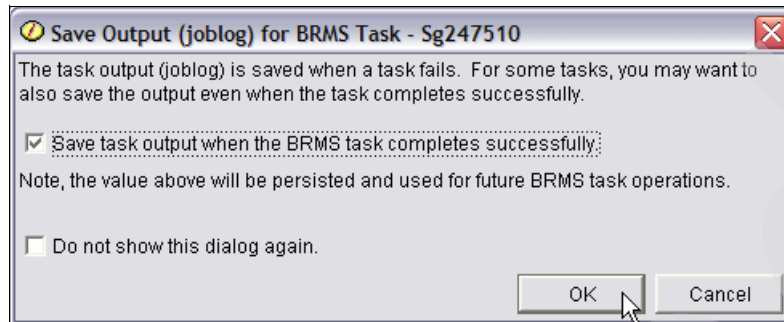

Figure 6-78 Save output (joblog) for BRMS task
3. The next window (Figure 6-78) asks us if we want to save the job log of our backup job. When running a backup for the first time, we always recommend this so that we can have the most complete information about the results of the backup. Select **Save task output when the BRMS task completes successfully**. Click **OK**.